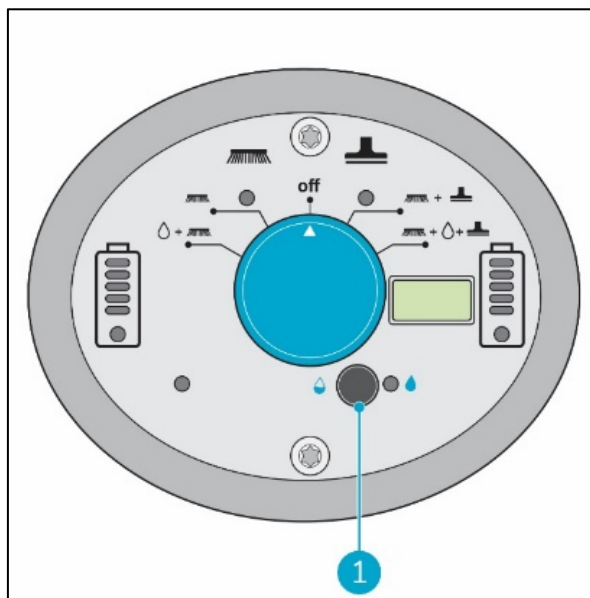

Figure 19
1. Turn on the ECO mode by pushing the ECO button (Figure 19, pos 1).